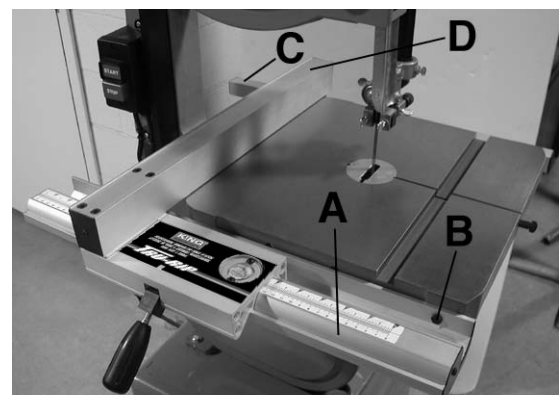

FIGURE 6
1. Assemble the fixed base (A Fig.6) to the cast iron table using 2 hex. bolts and spring washers (B).
2. Assemble the rear square tube (C) to the table using 2 cap screws.
3. Assemble the fence (D) to the fence body, then place the fence assembly on the fixed base and rear square tube, slide the fence on its guides until it is the required distance from the blade.